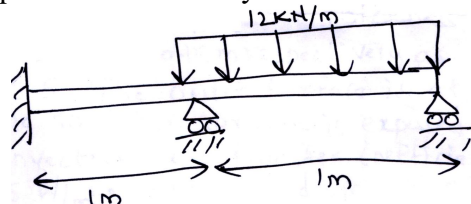

Fig.Q5(b)
- b. For the beam and loading shown in Fig.Q5(b). Determine the nodal slopes and the deflection at the midspan of the uniformly distributed load. Take  $E = 200 \text{ GPa}$  and  $I = 4 \times 10^6 \text{ mm}^4$ .